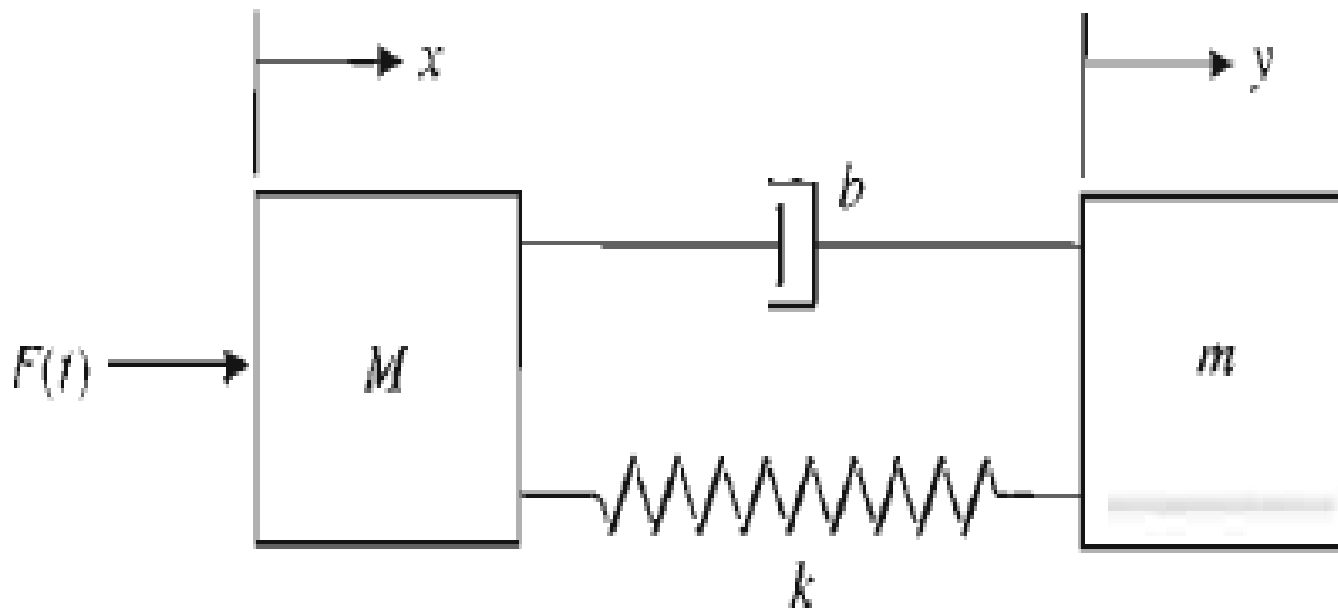

Fig.3.2: spring-mass-damper model of a robot arm.
2. A two-mass model of the robot is shown in Figure 3.2. Find the transfer function $Y(s)/F(s)$.